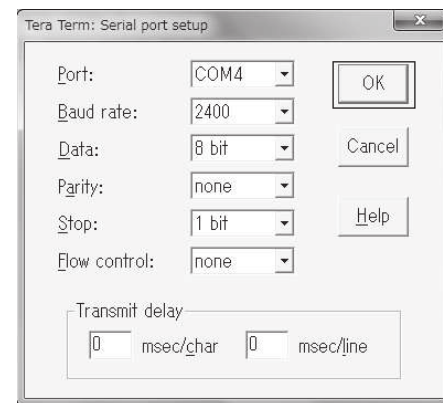

Fig.3-2
③Click Setup, and then Serial port.
④Enter the port number selected in step②. (Fig.3-2)